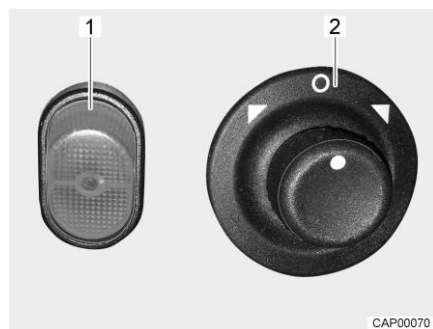

Fig. 25 Switches (electrically adjustable external mirrors)
- Select the mirror to be adjusted. To do so, turn the rotary switch (Fig. 25,2) to the left or right.
- Adjust the mirror. In order to do this, push the switch (Fig. 25,2) towards the desired direction.
- Press the switch (Fig. 25,1). The indicator lamp in the switch glows orange and indicates that the mirror heater is in operation.